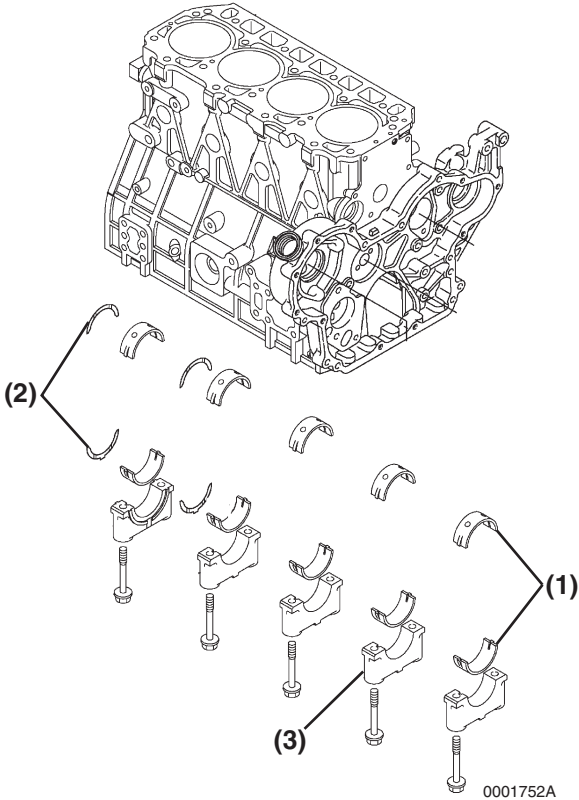

Figure 6-104
4. Remove the main bearing caps (**Figure 6-104, (3)**). Be sure to note the markings on the main bearing caps, or mark them yourself, so they can be reinstalled in the same order as they were removed. Do not remove the bearing inserts at this time.
7. Remove the bearing inserts (**Figure 6-104, (1)**) and thrust bearings (**Figure 6-104, (2)**).